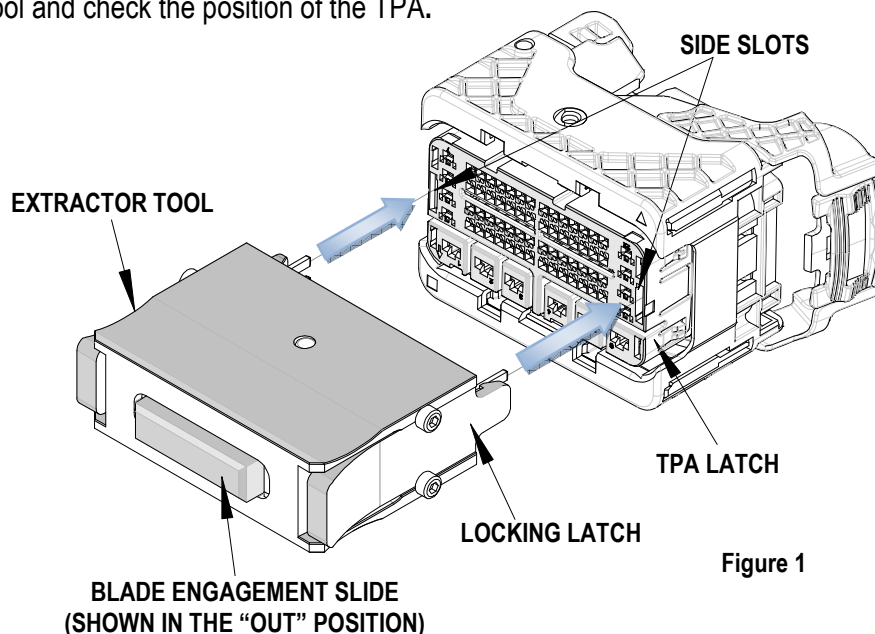

Figure 1
1. Insert the tool into the (2) side slots of the (TPA) secondary lock on each sides until it stops. See Figure 1.